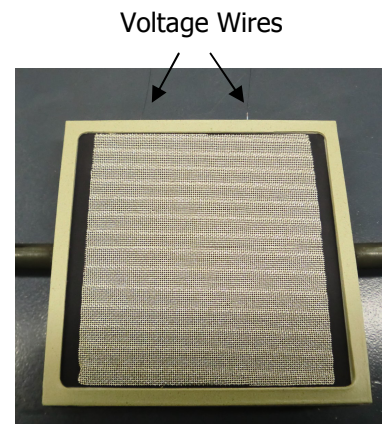

Figure 17
10. Place the remaining seal on the cell so that it is in alignment with the edge of the cell and manifold (Figure 17). Make sure the seal does not overlap the silver mesh, trim the silver mesh to a slightly smaller size if necessary to prevent overlap.